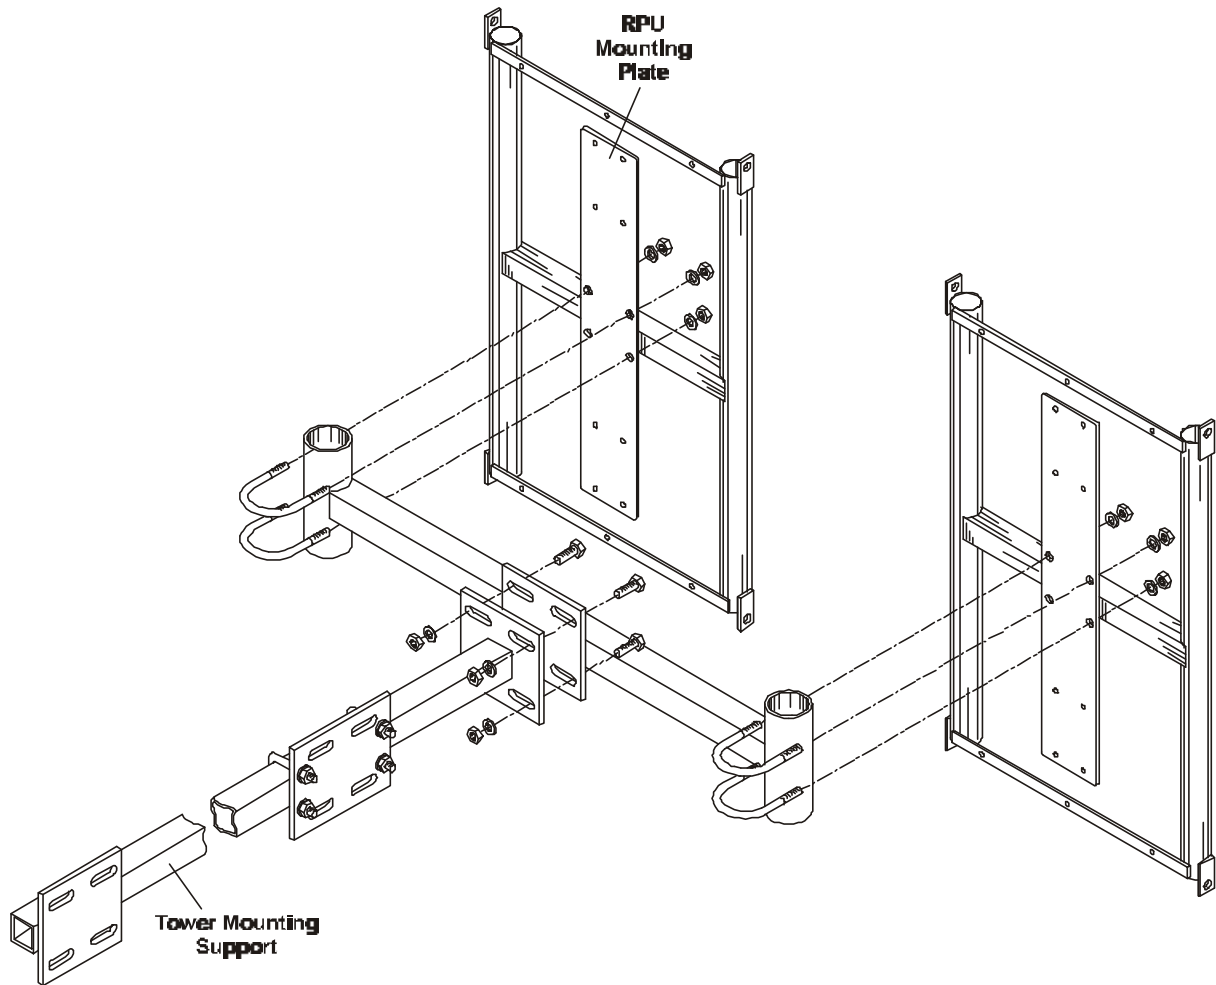
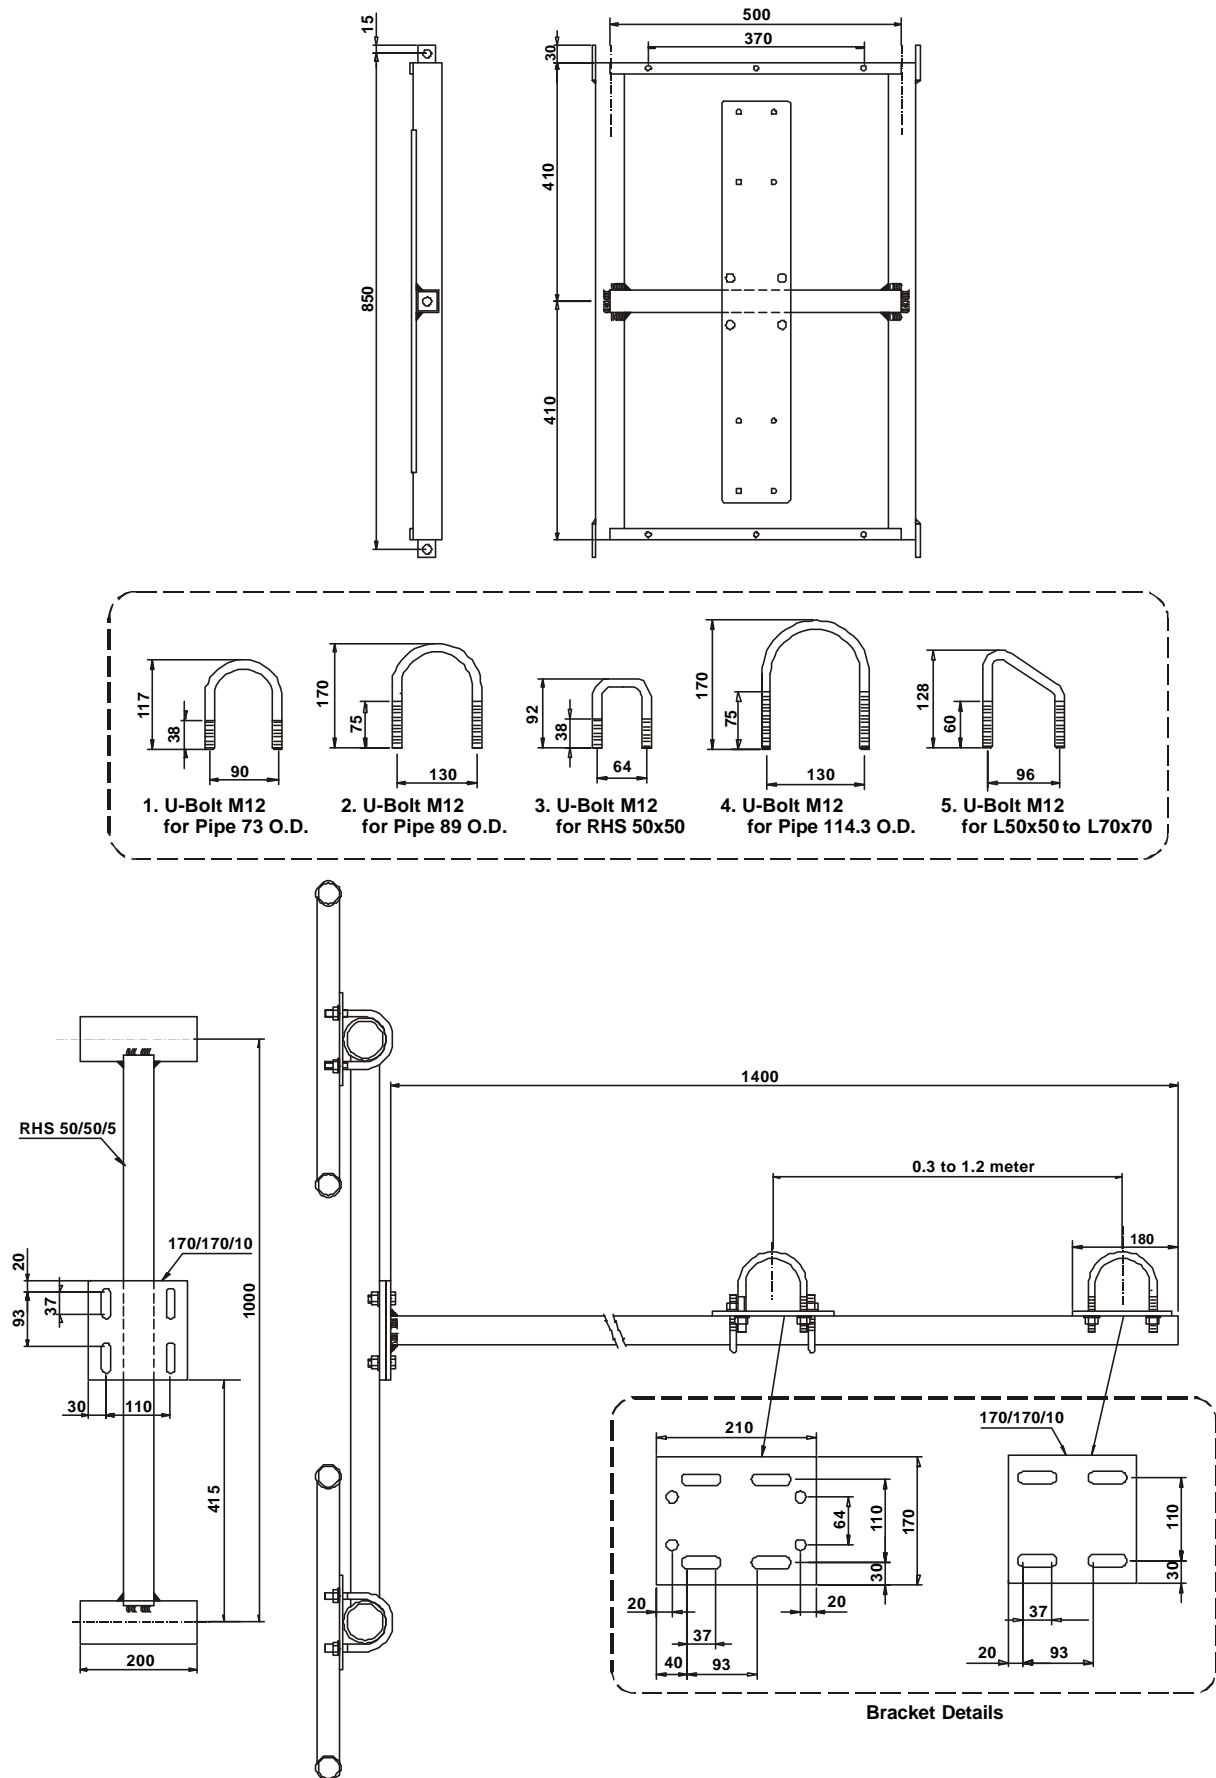
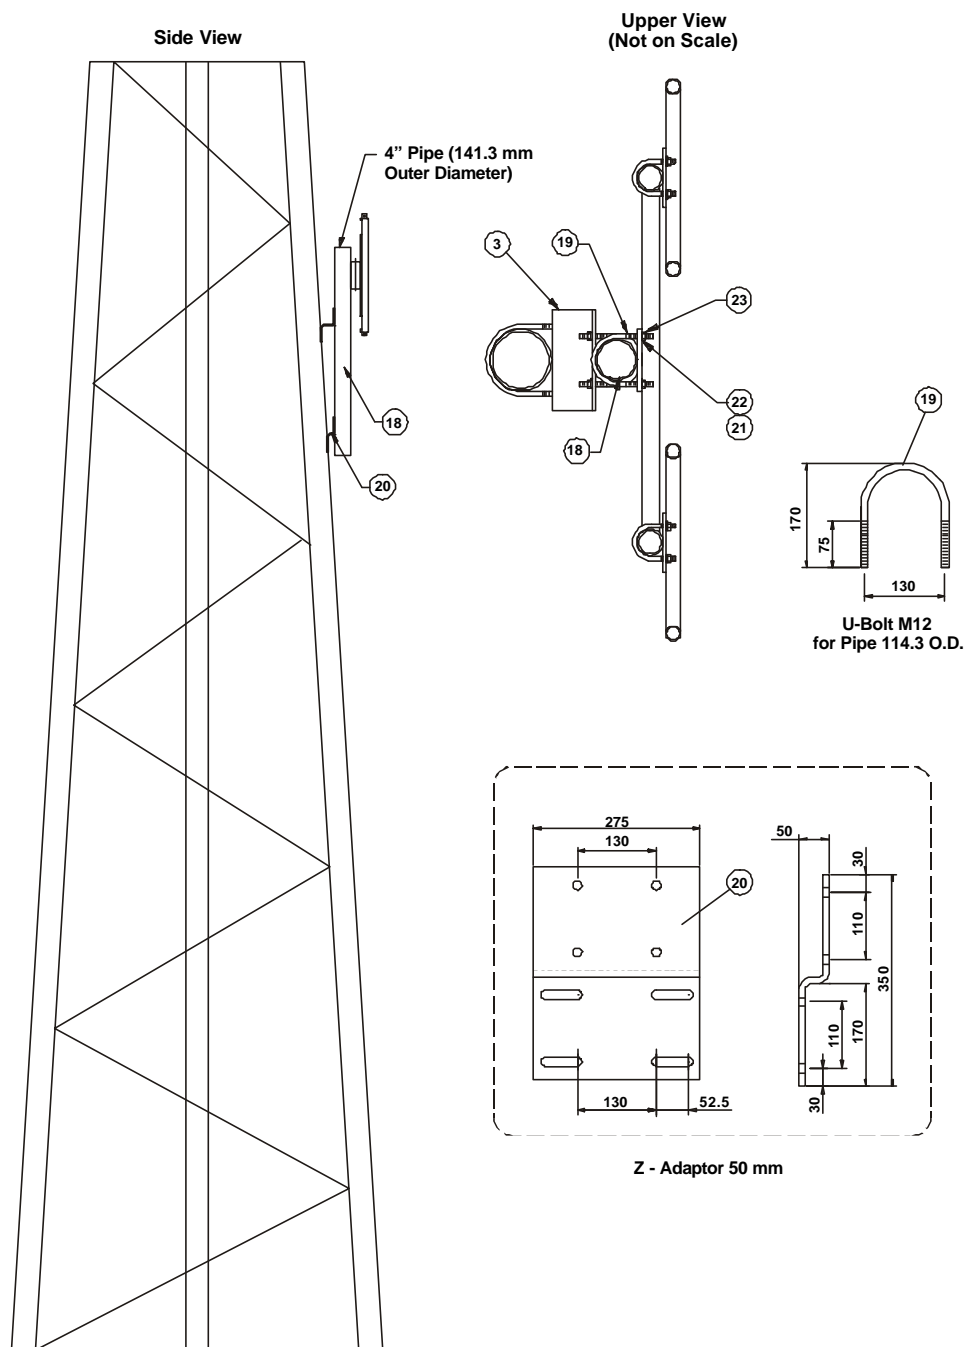

Figure 3-8. Narrow H-Supports and Accessories for Tower Mounting, Option 1, General View
Figure 3-9. Narrow H-Supports and Accessories for Tower Mounting, Option 1, Mechanical Details
Figure 3-12. Additional Mounting Kit for Pyramidal Towers
The applicable mounting accessories are shown in Figure 3-8 and Figure 3-9.
Figure 3-8 through Figure 3-12 show typical narrow H-supports and various mounting accessories recommended for tower mounting.
- One. Tower Mounting Option 1. The tower mounting support used for this option is shown in Figure 3-8 and Figure 3-9. This option can be used for mounting two narrow H-supports on straight towers with side sections in the range of 300 to 1200 mm.
Table 3-1 lists the accessories and the materials needed for option 1. The item numbers in table identify items in Figure 3-9.
Three. Attach the fastener (2) to the RPU (1) by means of screws (3) spring washers (4), flat washers (5) and nuts (6) as shown in Figure 3-8. Note that two flat washers are used around the lower screw.